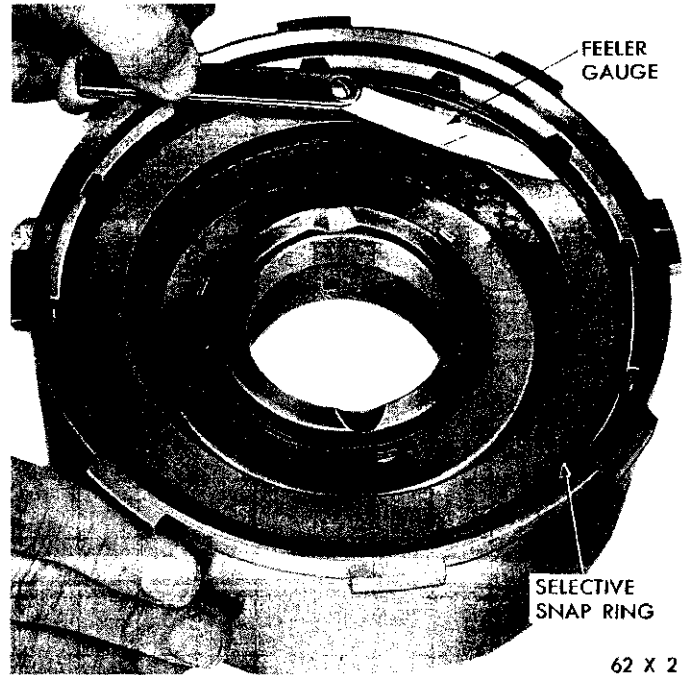

Fig. 72—Measuring Front Clutch Plate Clearance
(4) Lubricate all clutch plates, install one steel plate followed by a lined plate until all plates are installed. Install the pressure plate and snap ring. Make sure the snap ring is properly seated.
(5) With the front clutch completely assembled, insert a feeler gauge between the pressure plate and snap ring (Fig. 72). The clearance should be .024 to .123 inch. If not, install a snap ring of proper thickness to obtain the specified clearance.